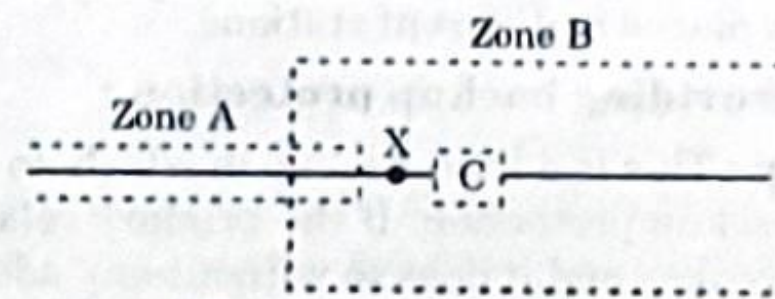

Fig. 1.5.2. Blind spot.
7. As shown in Fig. 1.5.2, when a fault is seen at X, the circuit breaker of zone B, including breaker C will be tripped. This will not interrupt the flow of fault current from zone A.